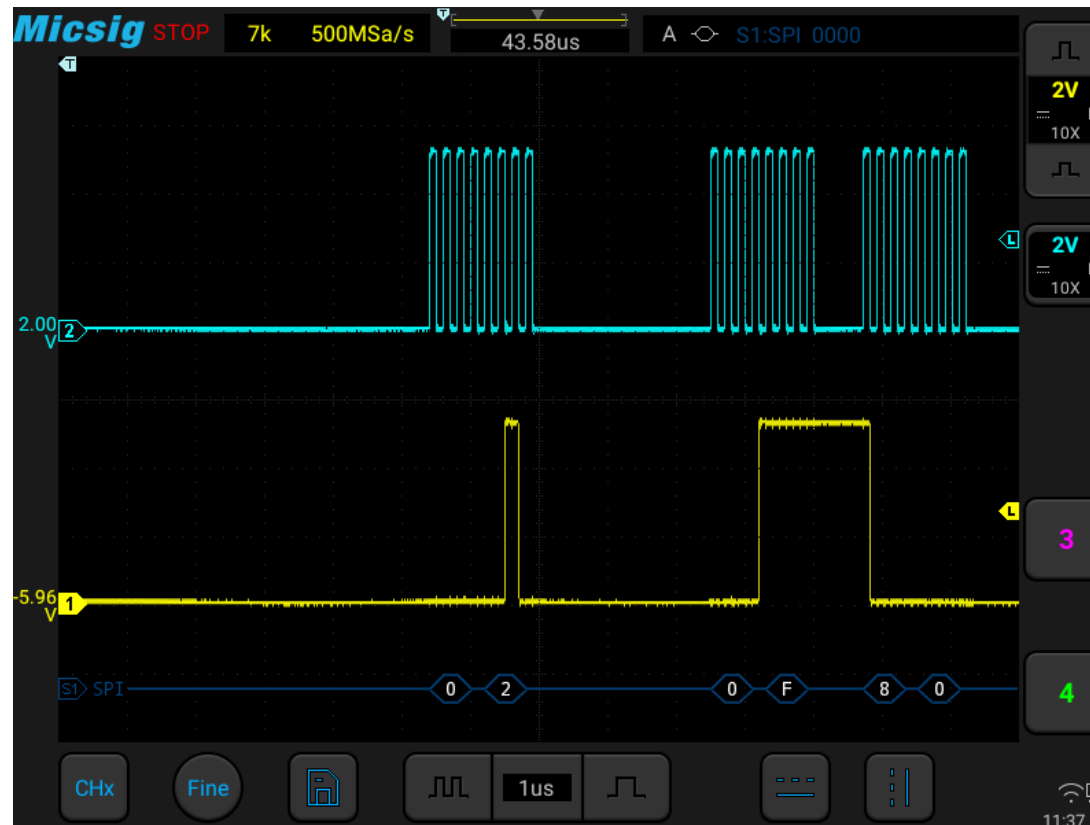

Figure 12-20 SPI Graphic Interface
- (1) Tap S1 to open the decode channel, and click S1 again to open the bus configuration menu;
- (2) Select the bus type as “SPI”, click clock as “Ch1” rising edge, the data is “Ch2” high level, and the data word length is “4bit”;
- (3) Open the trigger setting menu, click data on the touch screen, and use the virtual soft keyboard to set the data to be matched as “0001”;
- (4) Adjust the threshold levels of two channels according to signal amplitude; the SPI trigger graphic interface is shown in Figure 12-20: